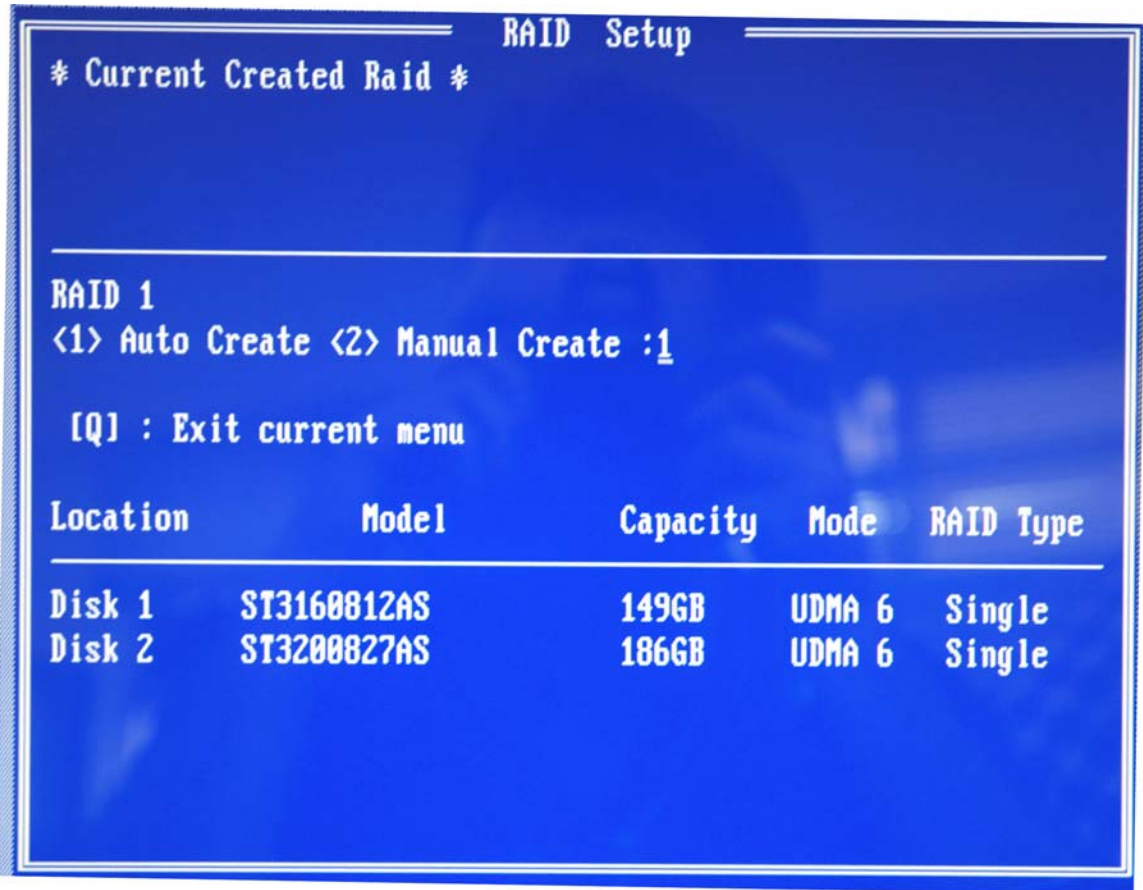

Figure E-8: Select “Auto”
Step 7: The user is prompted to **Auto Create** or **Manual Create**. Select **Auto Create** (see **Figure E-8**).